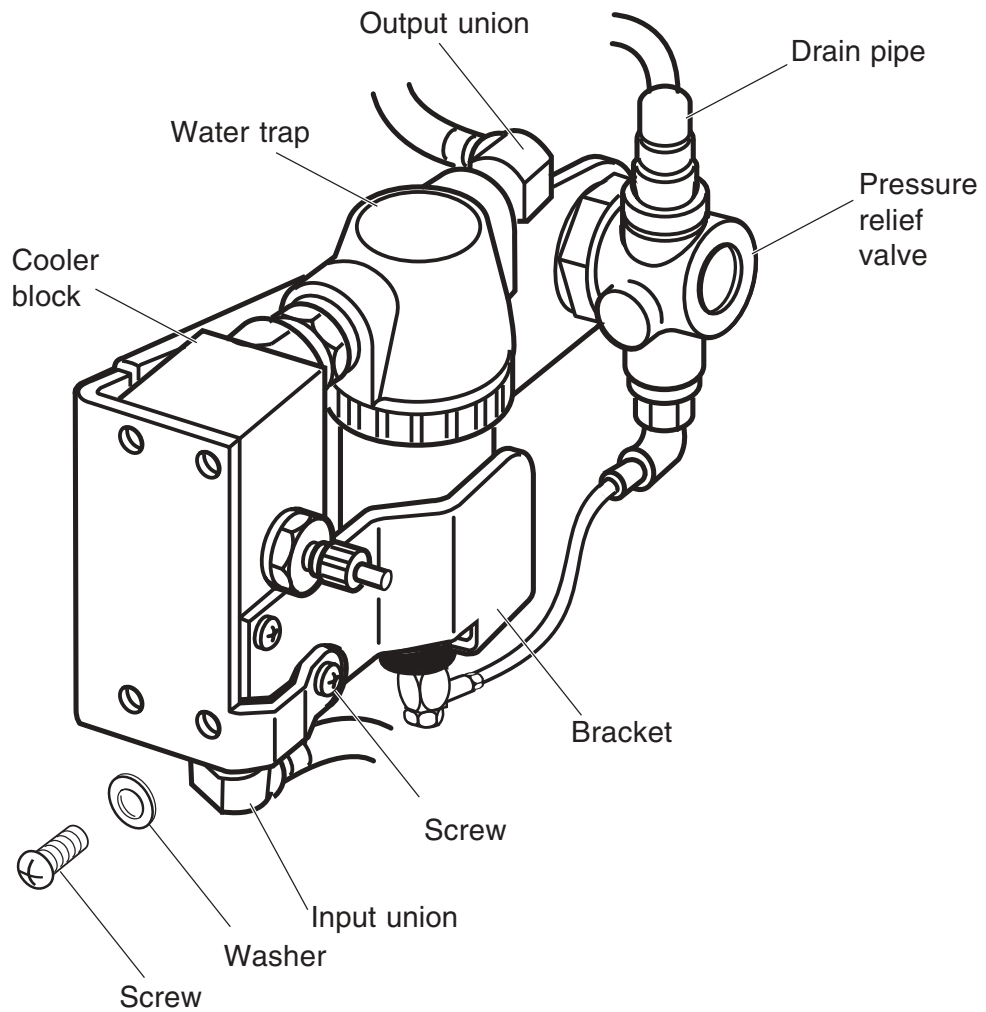

Figure 3-6 BS 3 Water/cooler trap assembly
10. Connect the wires for the pressure bleed valve solenoid on the water/cooler assembly as detailed in Figure 3-6.